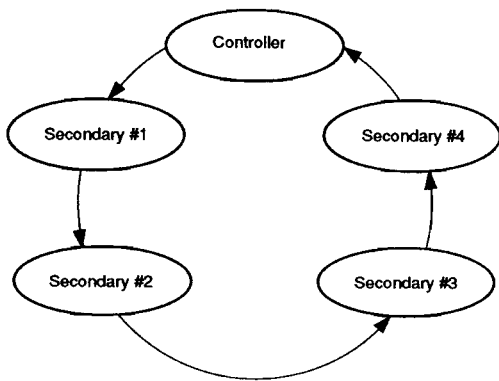

Figure 13. An SDLC Loop
**SDLC Loop Mode.** The SCC supports SDLC Loop mode in addition to normal SDLC. In an SDLC Loop, there is a primary controller station that manages the message traffic flow on the loop and any number of secondary stations. In SDLC Loop mode, the SCC performs the functions of a secondary station while an SCC operating in regular SDLC mode acts as a controller (Figure 13). SDLC loop mode can be selected by setting WR10 bit D1.